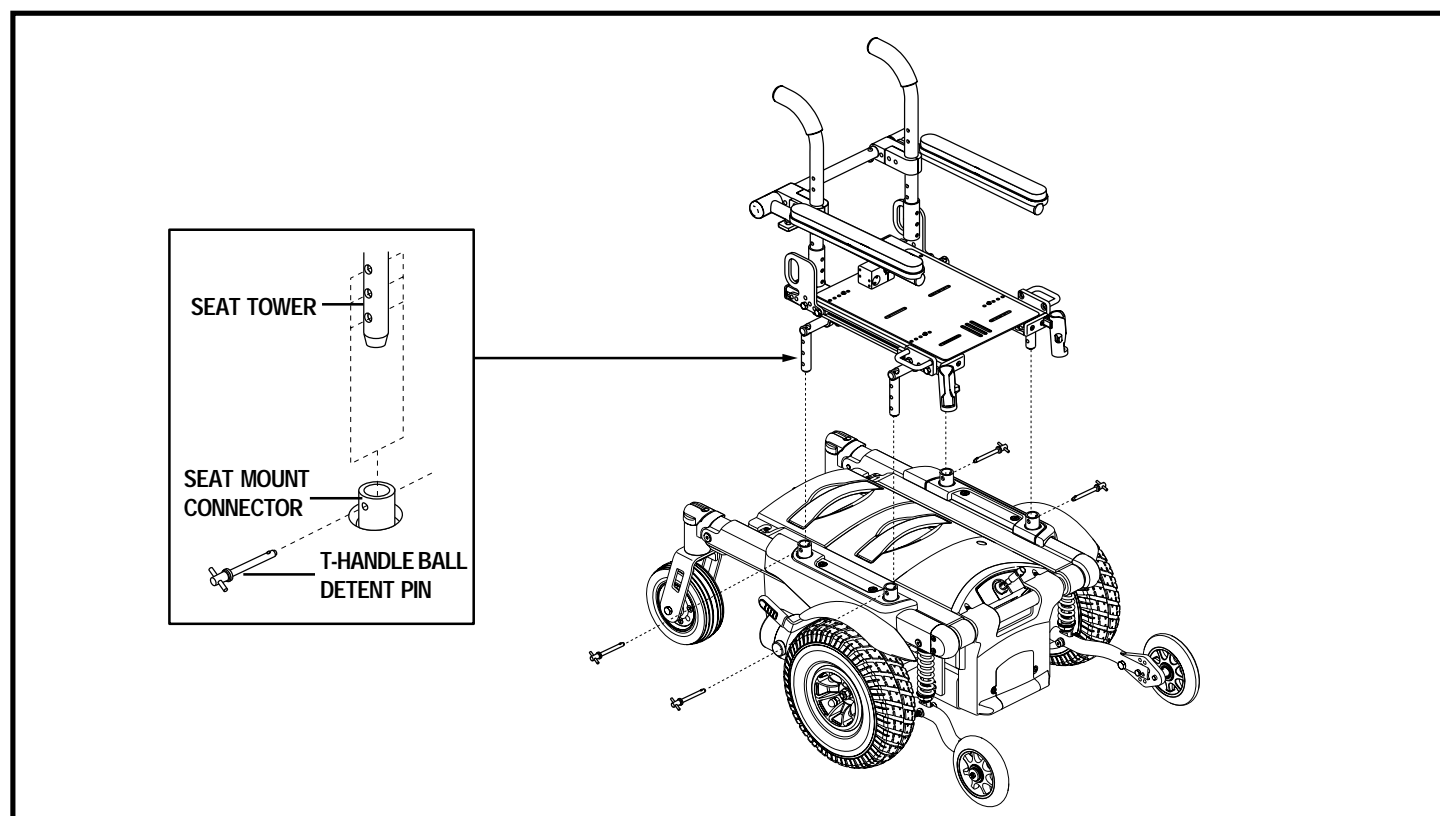

Figure 11. Seat Installation
Your power chair uses T-handle detent pins, seat towers, and seat mount connectors to connect the Synergy Seat to the power base. See figure 11. For more information, refer to the manual supplied with your seating system.
1. Position the seat directly over the power base so that the seat towers line up with the seat mount connectors. See figure 11.
1. Remove the four (4) T-handle ball detent pins securing the seat to the power base.
3. Lift the seat directly up. See figure 11.